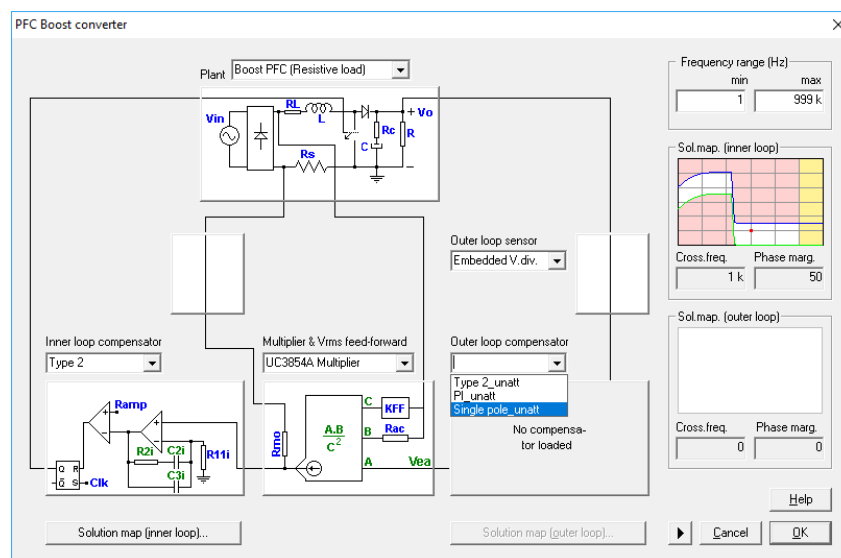

Figure 15: Outer loop compensator choice
2. Select the voltage regulator. See Figure 15.